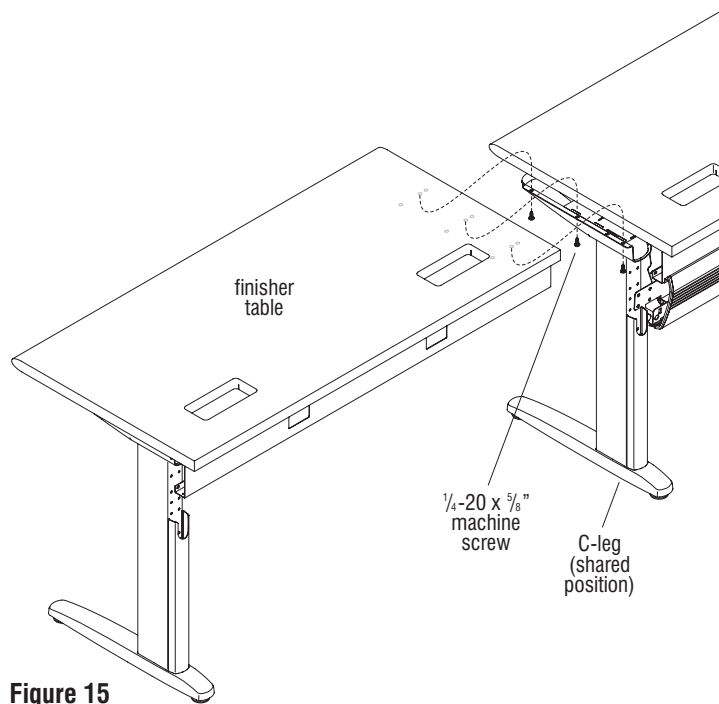

Figure 15
12. With the assistance of a second person, carefully turn the finisher rectangular table, to be connected to the next table in your configuration, to the upright position. Rest the no-leg end of the worksurface or wheelchair accessible kit onto the shared position C-leg of the previous unit. Align the mounting holes on the leg with the finisher worksurface or wheelchair kit holes and secure together using three $\frac{1}{4}$ -20 x $\frac{5}{8}$ " machine screws. If the screws are securing the legs to the wheelchair kit, at the threaded end of each bolt, twist a $\frac{1}{4}$ -20 nut on until snug. For ease of installation, start all screws before tightening (Figure 15 & Detail S).